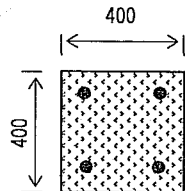

Fig. Q4
- Q4. A reinforced concrete column, 4m high, has the cross section shown in Fig. Q4. The four reinforcing bars are each 20mm in diameter. If the column is subjected to 1000kN compressive force, find the stresses in steel bars and concrete and shortening of the column. Young's modulus of steel and concrete are 200 kN/mm^2 and 15kN/mm^2 respectively.